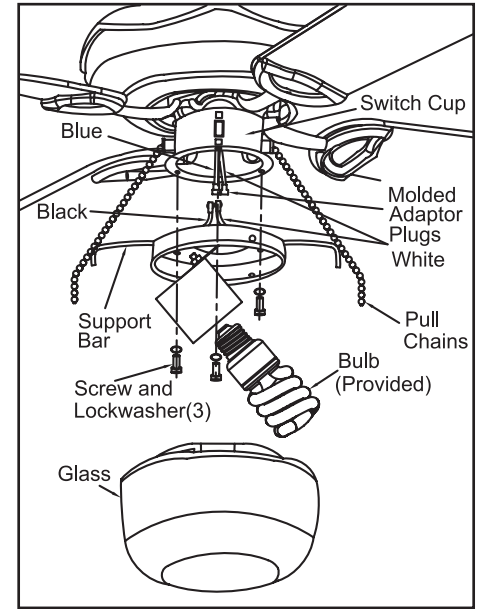

Figure 16
- Remove the three mounting screws and lockwashers on the switch cup of the fan motor assembly (figure 16).